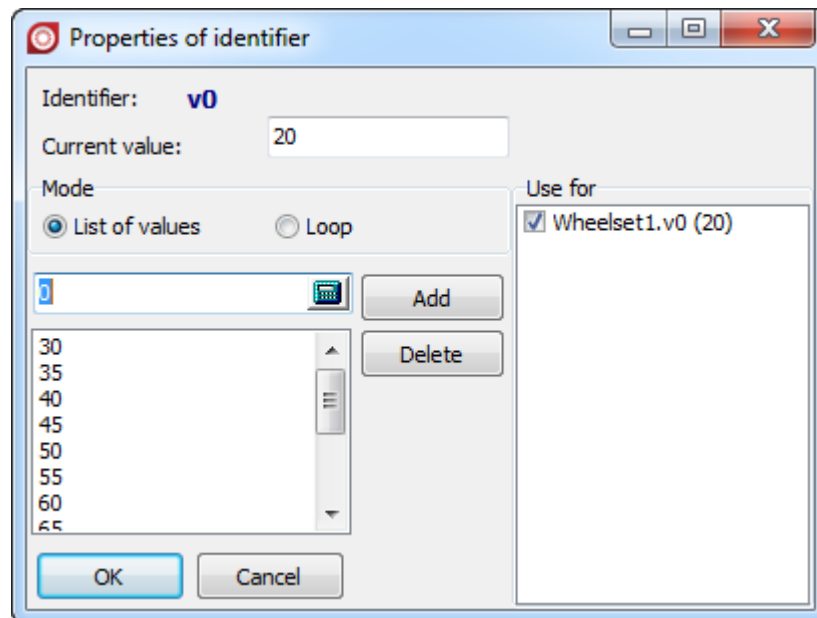

Figure 3.6. Values of parameters
3. In the new window **Properties of identifier** input values from 30 up to 90 m/s with the step is 5 m/s, Figure 3.6. Click **OK**.